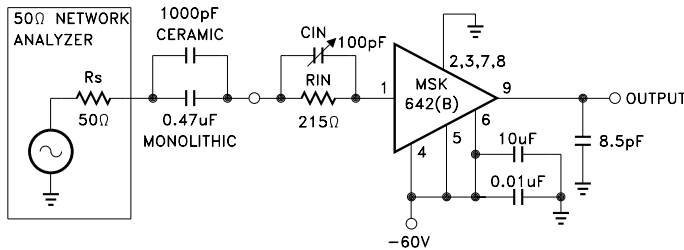

FIGURE 1
- ① $R_{IN} = 215\Omega$, $C_{IN} = 100pF$, $C_{LOAD} = 8.5pF$, $R_L = \infty$, unless otherwise specified (See Figure 1).
- ② Guaranteed by design but not tested. Typical parameters are representative of actual device performance but are for reference only.
- ③ Industrial grade devices shall be tested to subgroups 1 and 4 unless otherwise specified.
- ④ Military grade devices ('B' suffix) shall be 100% tested to subgroups 1,2,3 and 4.
- ⑤ Subgroup 5 and 6 testing available upon request.
- ⑥ Subgroup 1,4 $T_A = T_C = +25^\circ C$
The signal source in Figure 1 can be either a fast pulse generator or a network analyzer as long as the output impedance is 50 ohms. The DC level of the input should be -1.55V and all cables should be kept as short as possible. Since total load capacitance should be kept below 8.5pF, a FET probe should be used on the output.
Transimpedance amplifiers relate input current to output voltage. The MSK 642 contains an internal 3K ohm feedback resistor. This resistor converts input current to output voltage in the following manner (See Figure 1):